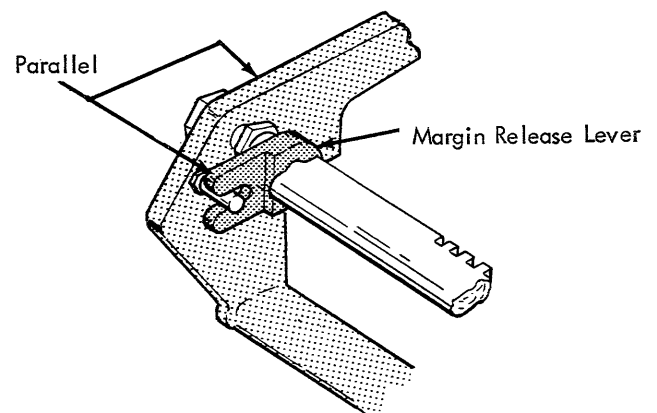

FIGURE 177. Margin Rack (Early)
1. With all parts at rest, loosen the fluted screw in the margin release lever and rotate the margin rack (within the release lever) to a level position (Fig. 177). Then tighten the fluted screw.